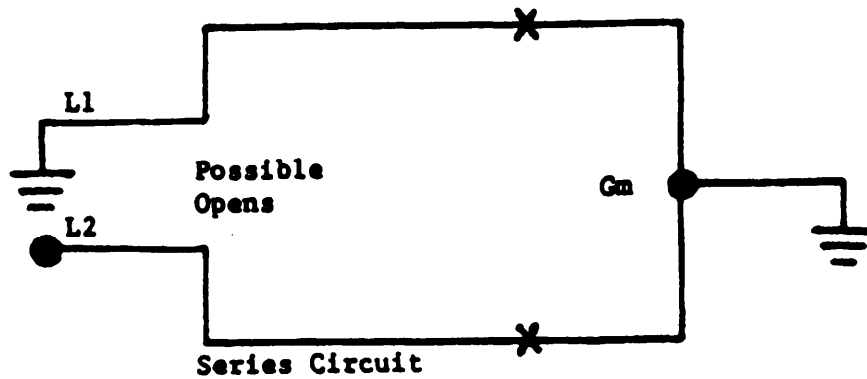

Figure 3-1. One Open Circuit, Test Example.
1. Disconnect the series-loop wires from the regulator-output terminals or runway circuit selector. Call these wires L1 and L2. (See figure 3-1.)